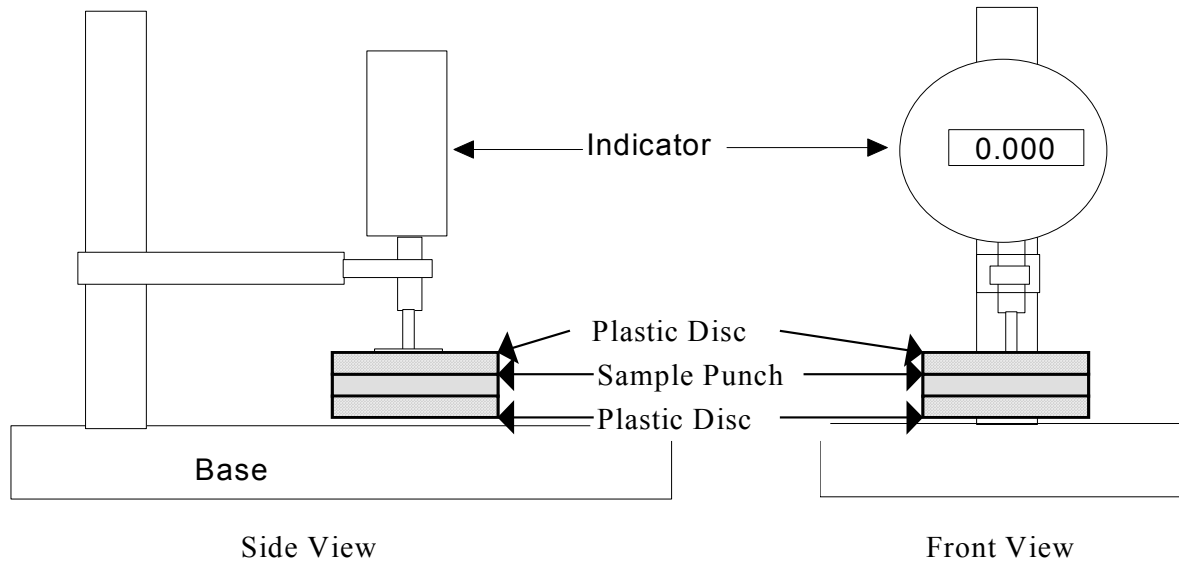

Figure 1
- c. c. Measure each punched sample thickness by placing it between the two plastic discs (see figure 1 on page 3) and centering the sample on the micrometer base (do not apply any additional pressure as this may alter the thickness reading). Lower the micrometer foot onto the sample and record the thickness reading to the nearest 0.001 cm.